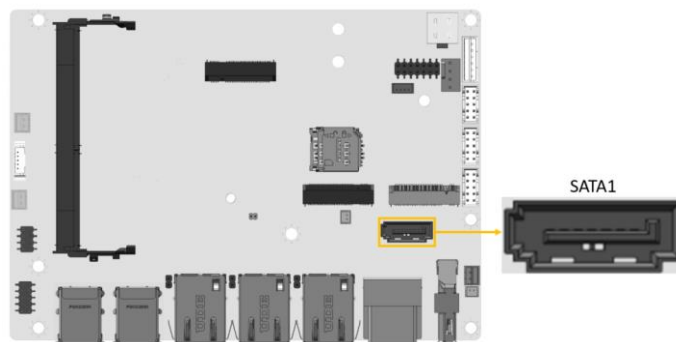

Figure 4-16: SATA 6Gb/s Drive Connectors Location
- CN Location:** See **Figure 4-16**